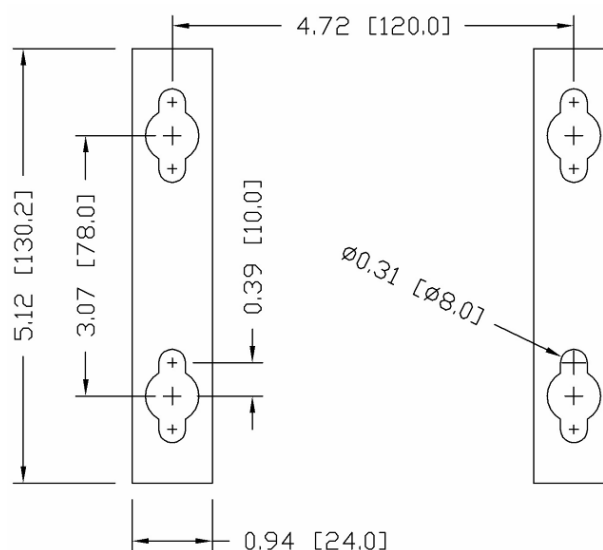

Figure A-13: Wall Bracket Mounting Hole Pattern
4. Mark the position of the mounting holes on the vertical surface per the dimensions shown in Figure A-13 or by holding the terminal up to the surface and marking through the bracket holes. Dimensions are provided in inches and [mm].